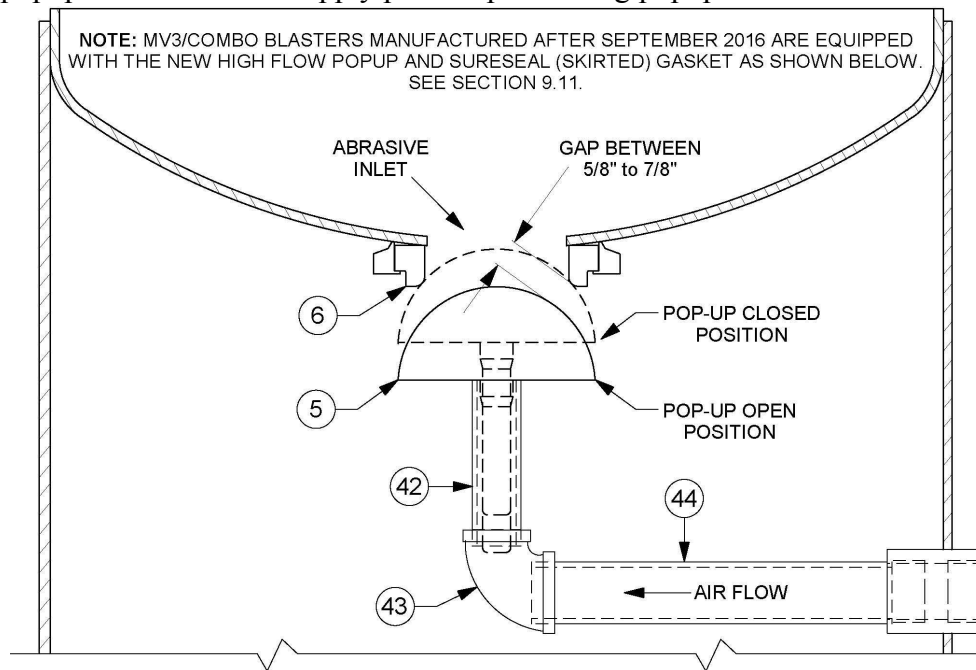

Figure 8.1 – Standard Popup Assembly and Internal Piping
Check the pressure vessel internal piping for corrosion, cracks, wear, holes, or any other damage. Repair or replace damaged components. See Figure 8.1 and Section 9.11.
- e) Check the popup gap (distance between the popup surface and the gasket). It should be between 5/8" and 7/8". See Figure 8.1. An excessive gap is created by a vertical nipple